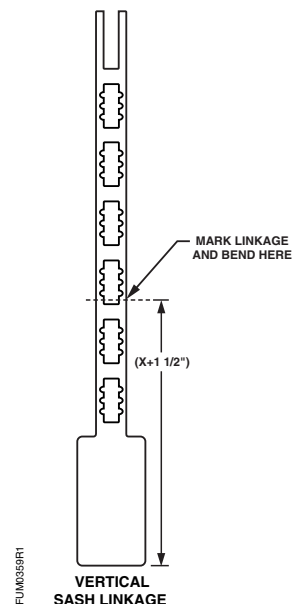

Figure 11. Marking First Linkage Bend.
4. Using the 1-1/2 inches + X value, measure from the outer edge of the mounting plate and mark this location (Figure 11).